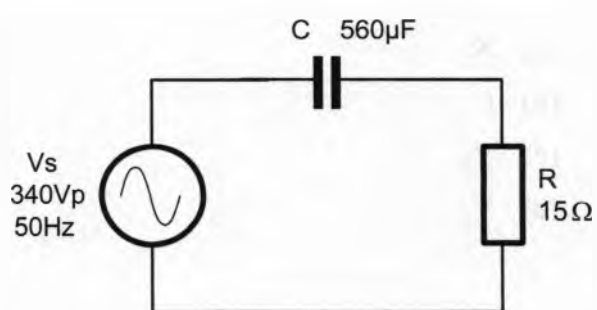

Figure 4
7. For the circuit of Figure 4, calculate: